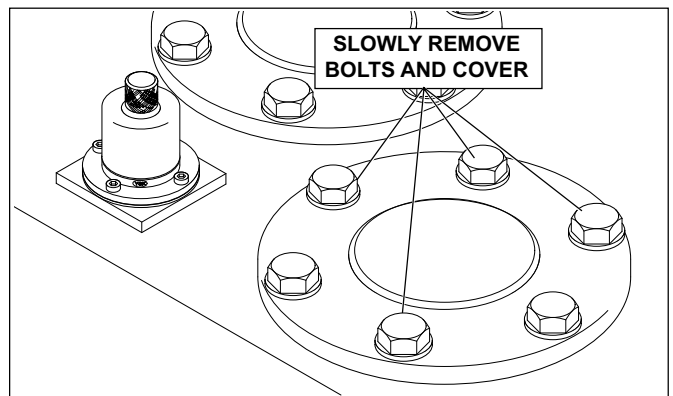

FIGURE 4.48C
7. Slowly remove the six retaining bolts from the suction strainer cover plate. See Fig. 4.48C.